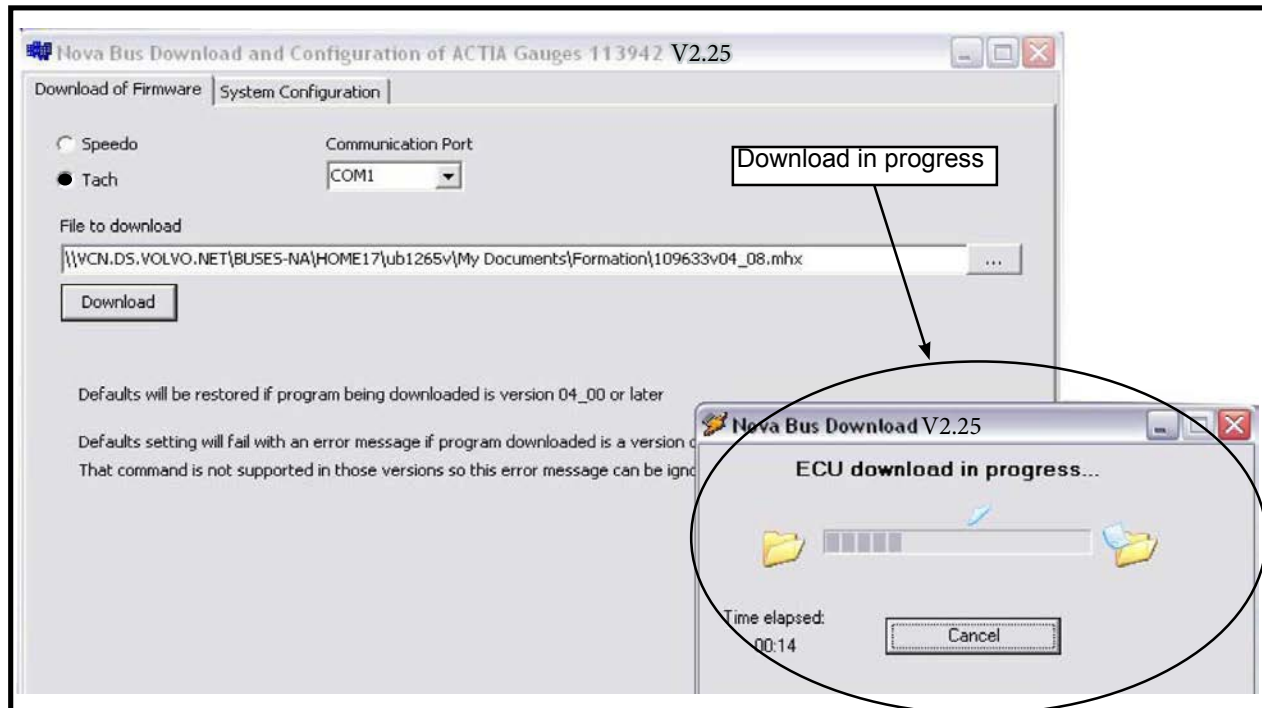

Figure 15 - Program Download
3.1.10 A download progress window is displayed. A new window opens once the download process is complete (see Figure 15).